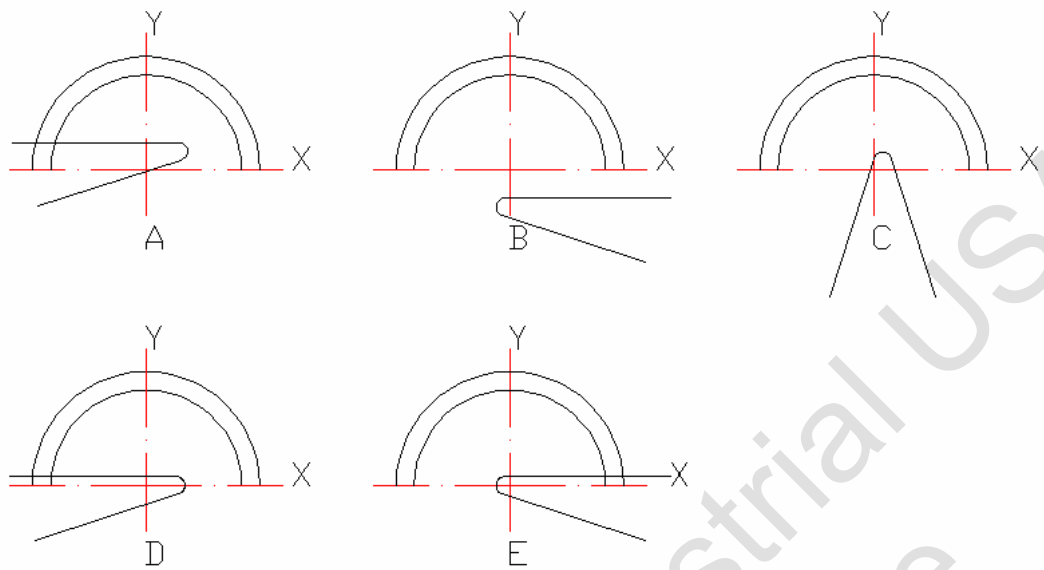
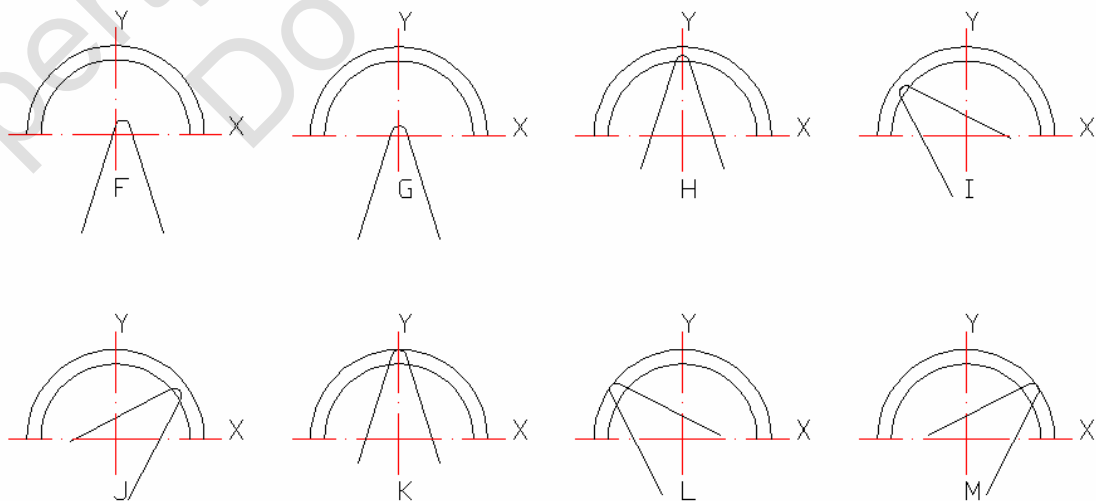
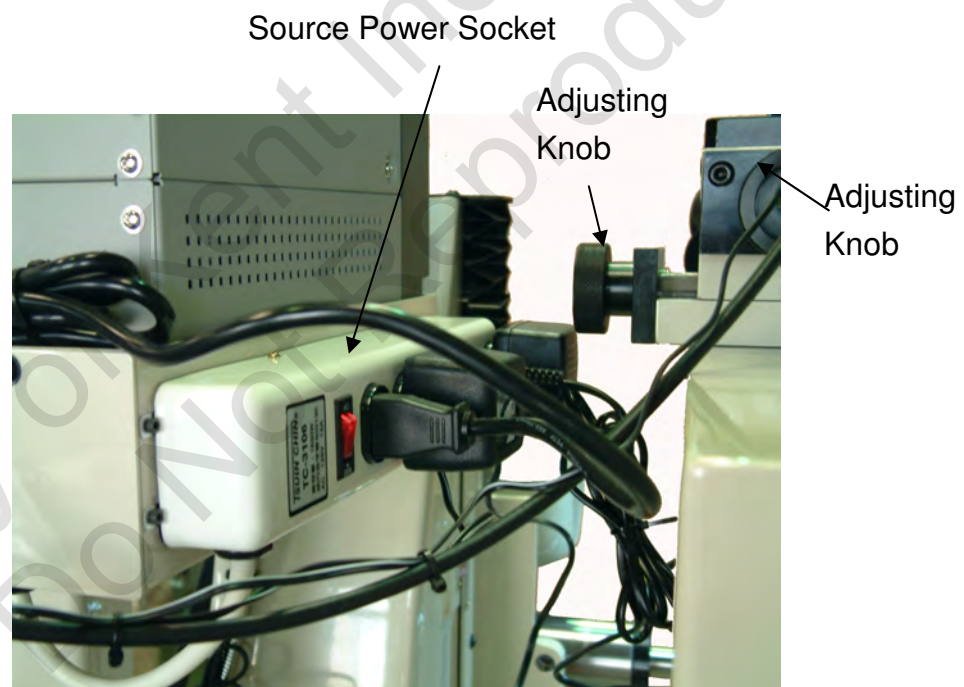

Fig 6-12 Adjust the center of tool
Fig 6-13 The CCD center adjusting
Fig 6-14 Image adjusting knob
3. Move the turntable C.W & C.C.W to see the rotation center of tool and the distance between the tool and the X axis of scale line. See (A) and (B) in Fig 6-12.
The incorrect center of the lathing tool is shown in A and B of Fig 6-12. The distance between the cutter edge and the axis X is not the same in these 2 pictures and the distance is the same as shown in picture (D) and (E).
1. The tool is not balanced in axis Y (picture F of Fig 6-12), adjust the tool to the approximate center by rotating knobs located on the seat until the tool looks like picture G (balanced in axis Y) of Fig 6-13 .
2. Adjust the cross slide and the main slide of work-head until the center of tool looks like picture H of Fig 6-13. The tip of tool is extruded a little in picture H and the distance is balanced in axis Y.
3. Swivel the turntable to see if the tool is balanced in the inner circle. Refer this to J and K of Fig 6-13.
4. Adjust the cross slide and the main slide of work-head until the arc of tool contact the outer circle. Swivel the turntable to see if the tool is balanced in the outer circle. Refer this to L and M of Fig 6-13. The Source power socket and the adjusting knobs are shown in Fig 6-14.
Fig 6-14 shows the picture of the connectors and the adjusting knobs. It is displayed here for readers to recognize the inspecting device easier.